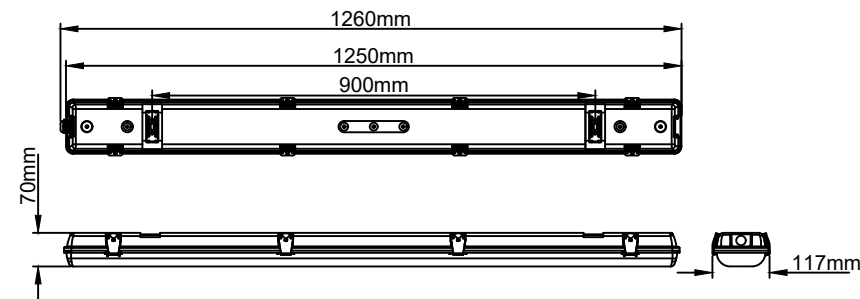

Fig. 1
Familiarize yourself with the luminaire/installation procedure and ensure the power is safely isolated before installing the luminaire. Fix the retaining clips to the ceiling*. Install the body on to the retaining clips*. Unclip the diffuser to expose the LED tray. Pinch the 2 grey tabs to release the LED tray from the body. Retaining straps are installed to prevent the LED tray from falling during install. Install supplied cable gland and dress cables through. Connect the mains wiring as per the guide Fig. 2, Brown (L SW) Switch Live, Black (L PERM) Permanent Live, Blue (N) Neutral and Green/Yellow (G/Y) Earth. **Please note:** For testing purposes a provision should be made in the circuit for disconnection of the unswitched live (i.e. key switch). Connect the Emergency battery. Re-install the LED tray by pushing onto the grey tabs making sure it locks back into place. Tighten the cable gland. Re-fit the diffuser ensuring the seal is in place and undamaged. Turn on the power and test the luminaire. *This product is suitable for suspending using the supplied metal suspension kit that hooks either side of the fixing bracket as per Fig.1